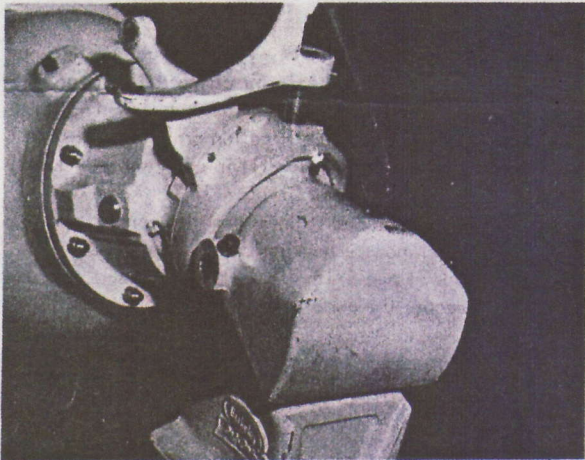

Figure 3
- Reinstall the steerable nozzle assembly and reverse cable (Figure 3). When installing the Jetovator on Model 12JC Jet-Drives, attach the new tiller (8) at this time.